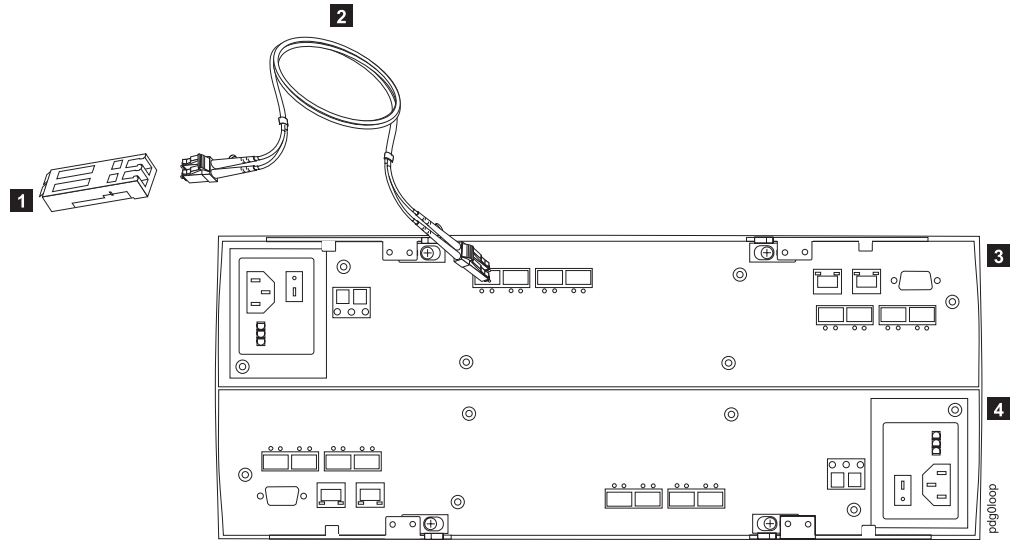

Figure 35. Install wrap plug
3. Insert the wrap plug from your kit into the female-to-female converter. See Figure 35 on page 93.
Table 17. Description of Figure 35